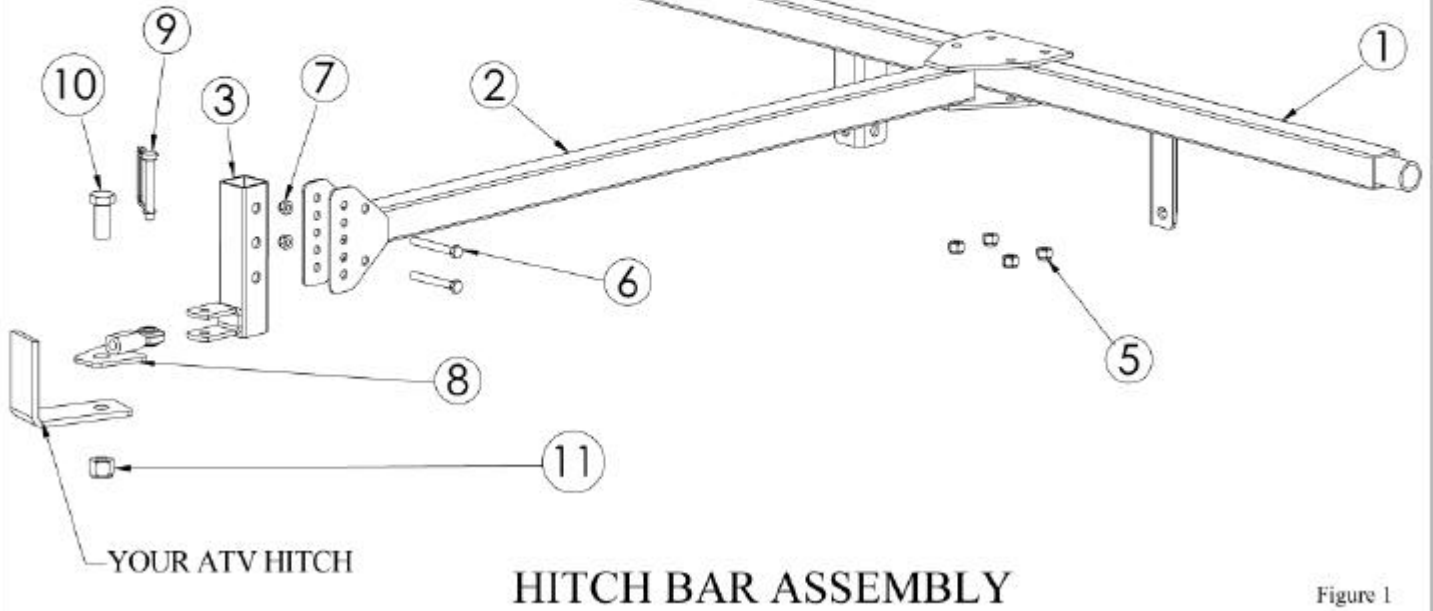

Figure 1
TOW HITCH OFFSET ASSEMBLY (refer to fig. 1)
- Install the hitch swivel (8) to the tow bar of the tow vehicle. (refer to fig. 1)